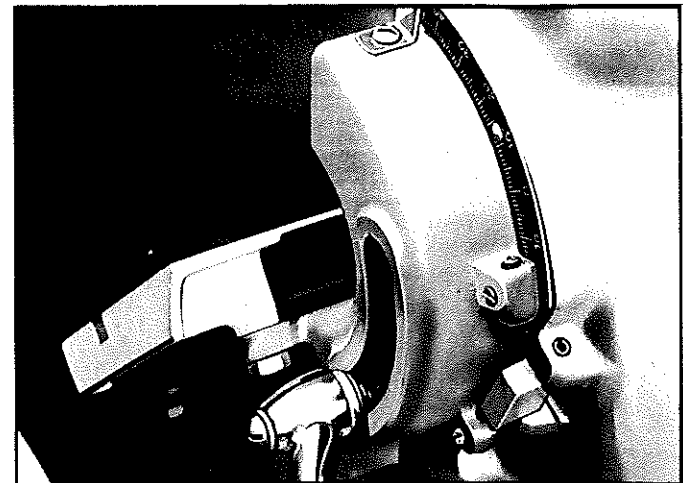

Fig. 16
5. The same procedure is followed when adjusting the table to stop at the 45° position as shown in Fig. 16.
1. To tilt the guard forward at the top, slightly loosen the four screws that attach the guard to the disc sander (two of the screws are shown at (A) Fig. 16).
2. Loosen screw (C) and tighten screw (B) Fig. 16, to adjust the guard to the desired forward position at the top. NOTE: The adjusting screws at the opposite end of the disc sander must also be adjusted.
3. To tilt the top of the guard to the rear, follow the same procedure as above, except loosen screw (B) and tighten screw (C) Fig. 16.